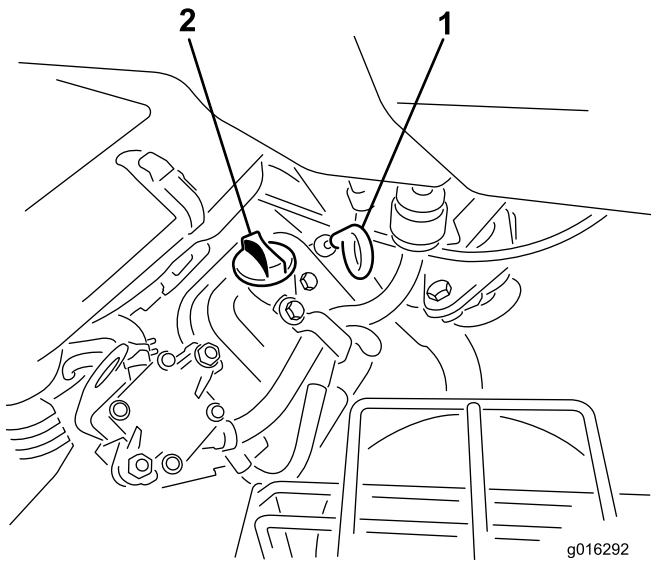

Figure 27
2. Unscrew the dipstick and wipe it with a clean rag. Screw the dipstick into the tube and make sure it is seated fully (Figure 27).